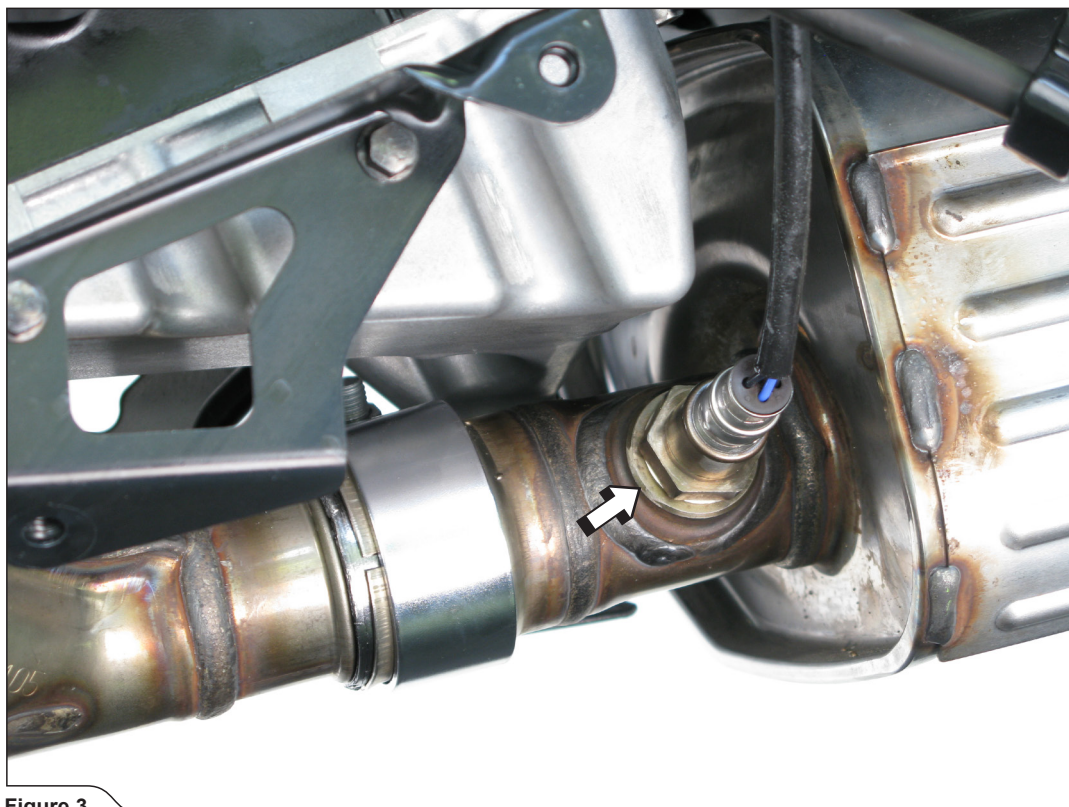

Figure 3
4. Unscrew and remove the lambda sensor (Figure 3).